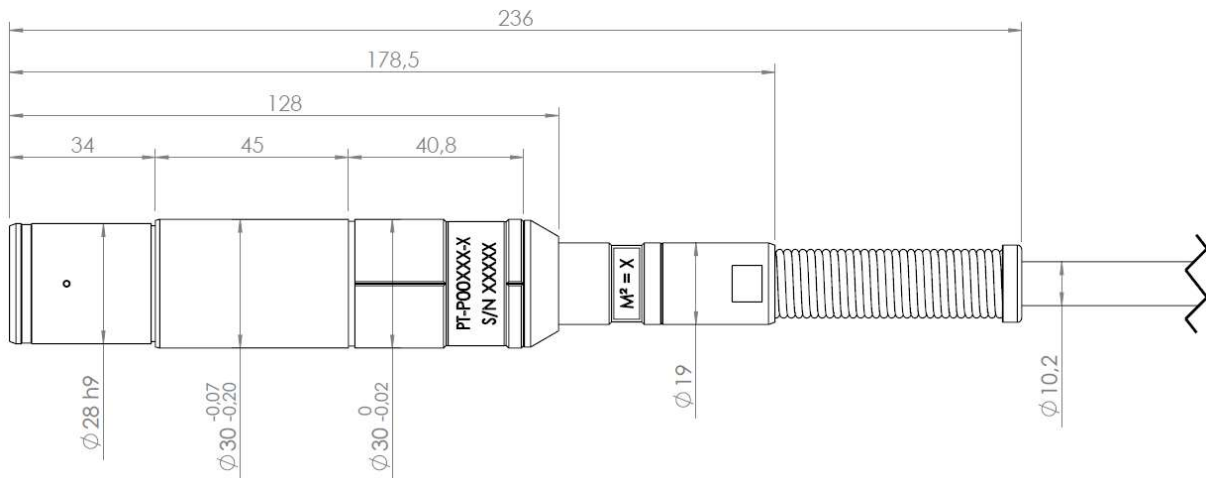

Figure 7.2: Outline Drawing: RIC Beam Delivery System
(1) Refer to table 4.1.1 for fibre type definitions
(2) Measured with respect to the reference surface Ø30mm +0/–0.02mm defined in figure 7.2